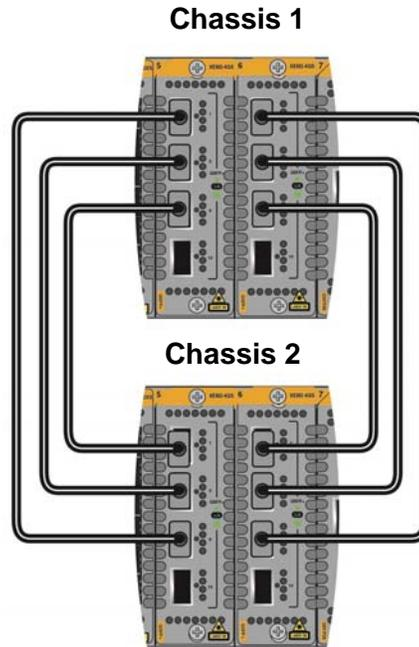

Figure 19. Unsupported Trunk with Too Many Stacking Ports
- ❑ Figure 19 on page 58 is an example of a trunk that exceeds the permitted number of ports per switch. The trunk uses XEM2-4QS Line Cards, which, as listed in Table 15, can have a maximum of four trunk ports per switch. The two switches have six stacking ports each, making for an unsupported trunk. To bring the example into compliance with the rule, you would have to remove two trunk ports from each switch.